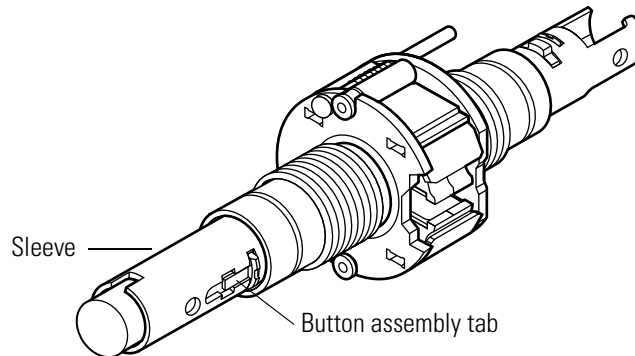

Figure 3.14 Bending the button assembly tab
2. Insert a small screwdriver into the cutout in the sleeve and under the button assembly tab. Bend the tab into the cutout, as shown in Figure 3.14.